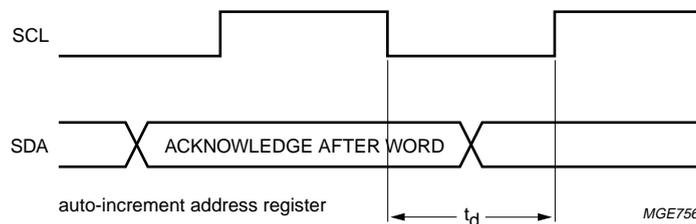

Fig.11 Timing of reduced I²C-bus frequency
1. By making the I²C-bus master insert a delay (t_d) after the acknowledge pulse when the auto-increment occurs. The delay should be larger than or equal to $1/f_s$ where f_s is the I²S-bus sampling frequency (see Fig.11).